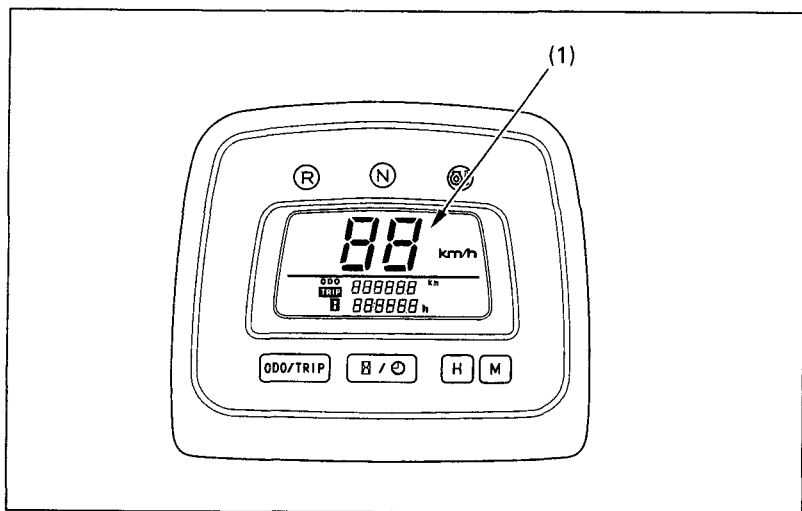

Fig. 2-16 (1) Multi-function display
When the ignition switch is turned I (ON), the display (1) (Fig. 2-16) will temporarily show all the modes and digital segments so you can make sure the liquid crystal display is functioning properly.